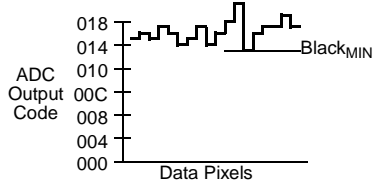

Figure 8: Finding BlackMIN
- Find the minimum pixel value of the scanned black image (BlackMIN) for each color (Figure 8).